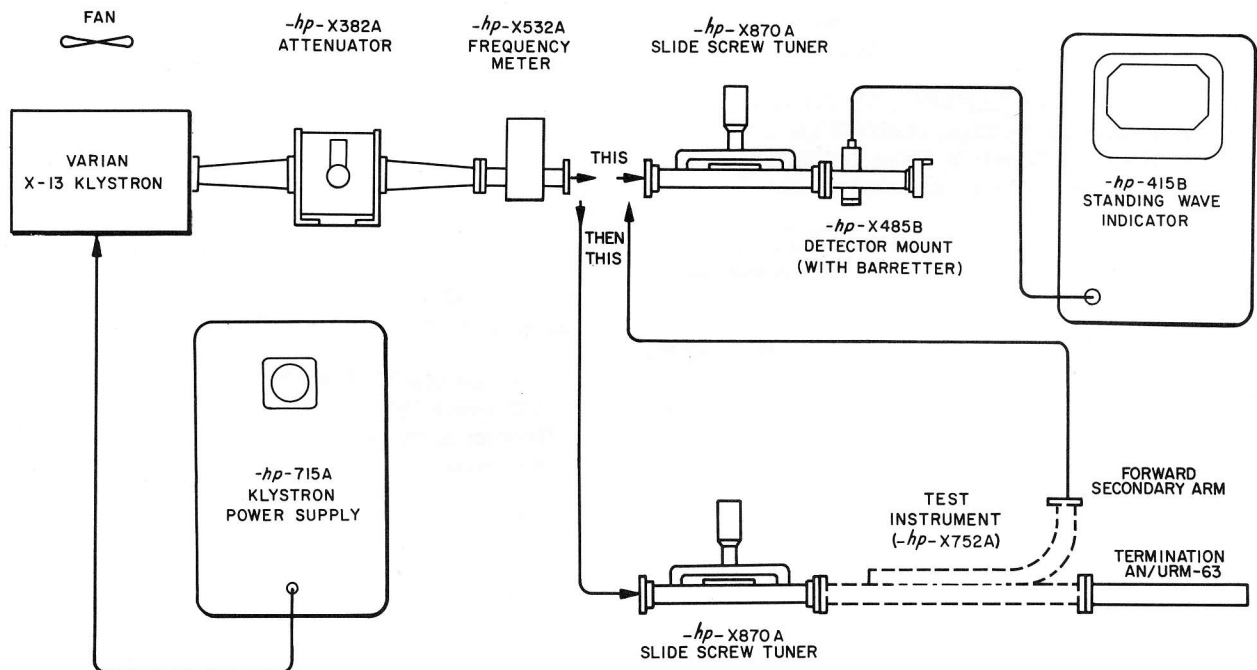

Figure 2-1. X752A Direction Coupler Coupling Factor Calibration
1) To check the coupling factor of the X752A, connect the equipment as shown in Figure 2-1. Connect the X485B Detector Mount and the X870A Slide Screw Tuner directly to the X532A Frequency Meter.
- 14) Insert the X752A between the X382A and the X485B as shown in Figure 2-1. Read the 415B and record the coupling factor.